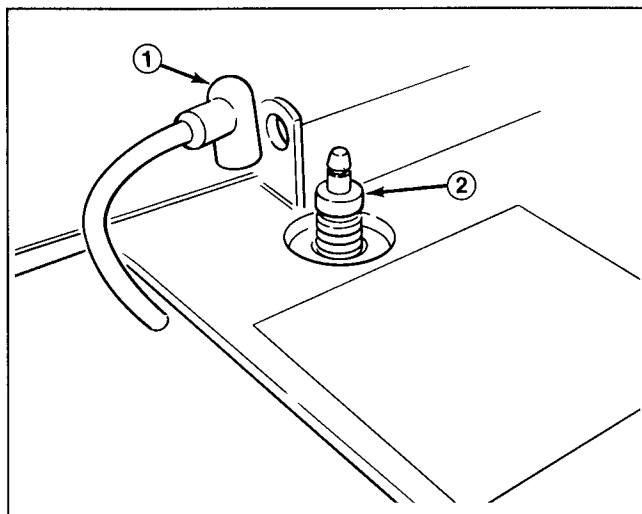

Figure 35
1. Clean area around spark plug so dirt does not fall into cylinder when plug is removed (Fig. 35).
2. Pull wire off spark plug and remove plug from cylinder head (Fig. 35).